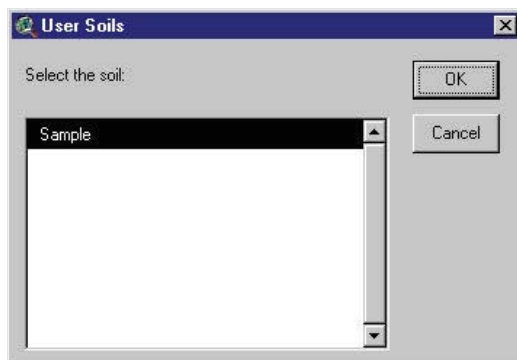

Figure 6.40
- b. A dialog box is displayed listing all soils in the User Soil database (Figure 6.40).